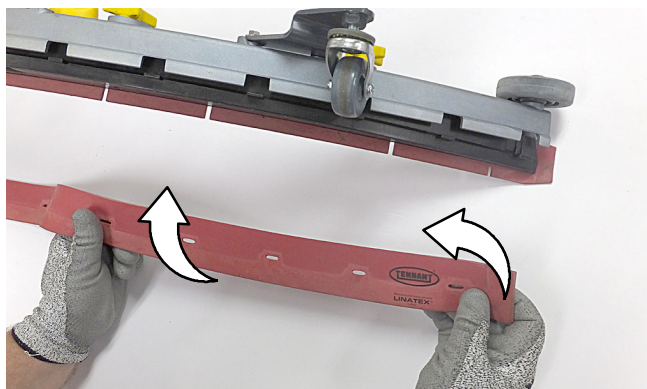

FIG. 128
4. Rotate the rear blade to a new wiping edge and reinstall blade (Figure 128). Make sure to align the slots in the blade with retainer tabs.